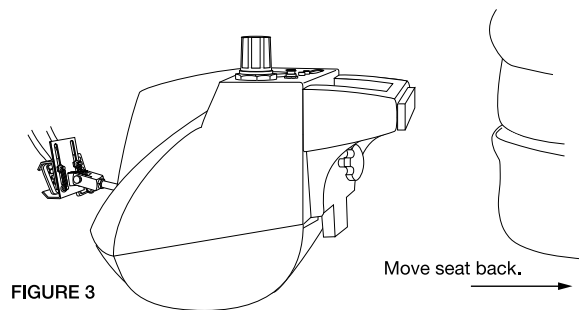

FIGURE 3
3. Adjust the driver's seat to the far back position (Figure 3). Place the *BrakeBuddy* on the floorboard between the seat and the brake pedal. Slide the *BrakeBuddy* back against the seat for maximum working room.